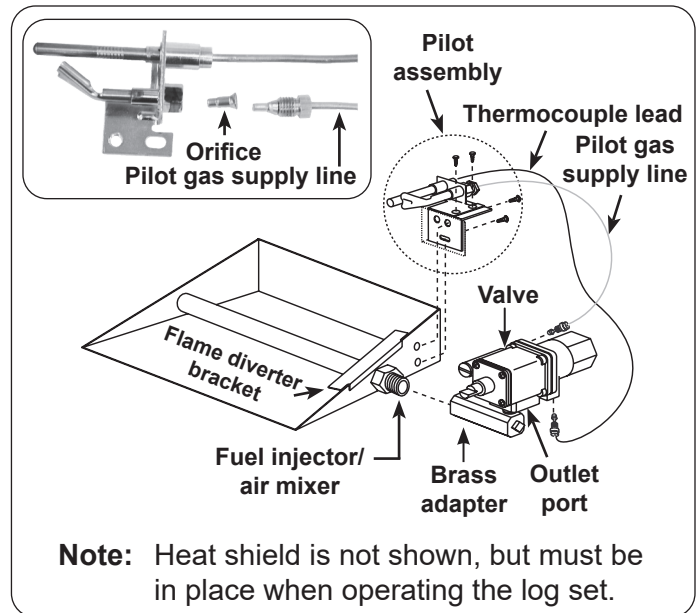

Fig. 4-1 Overall installation diagram
The safety pilot kit is shipped with a natural gas orifice installed unless the safety pilot kit was received in the same box as the propane burner. To change from natural to propane gas, remove the pilot gas supply line at the pilot end. Replace the natural gas orifice with the propane gas orifice contained in the yellow envelope marked "L.P.-GAS", provided in the bag. Reattach the pilot gas supply line to pilot. See Fig. 4-1.
2. Screw the brass adapter of the control valve to the fuel injector or air mixer on the burner (see Fig. 4-1).